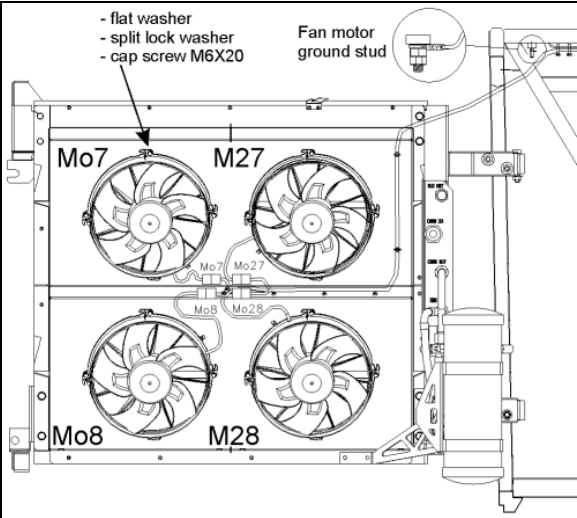

FIGURE 45: CONDENSER FANS
2. Unplug the fan harness connector (Figure 45).